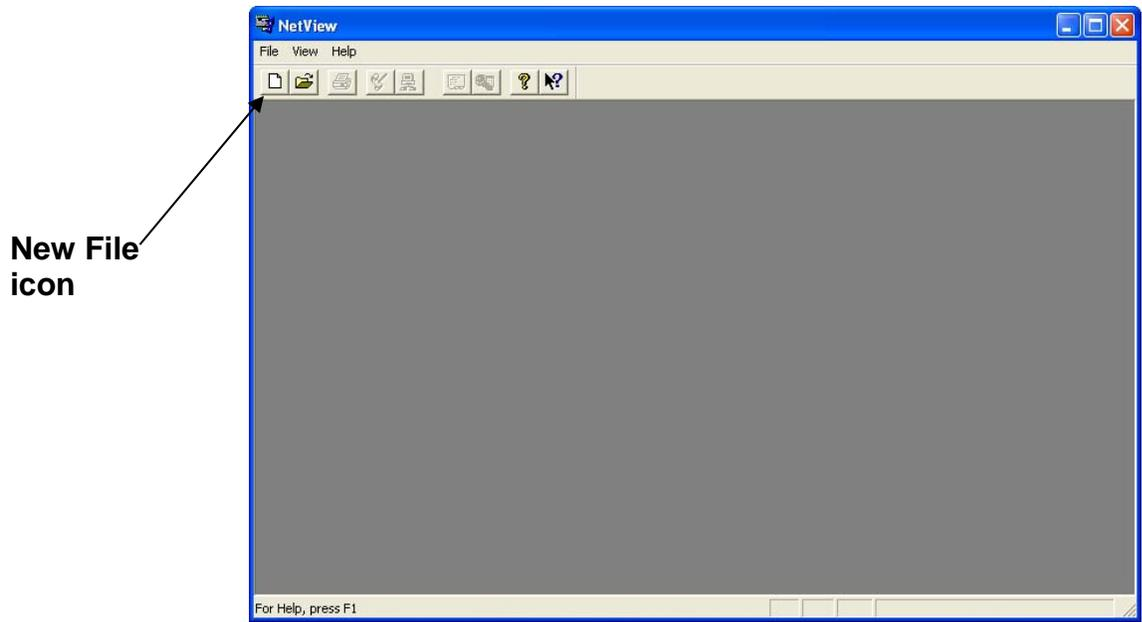

Figure 3-1. NetView Main Window
1. Click **Start > Programs > OpenBSI Tools > NetView** and NetView starts. (See *Figure 3-1*.)